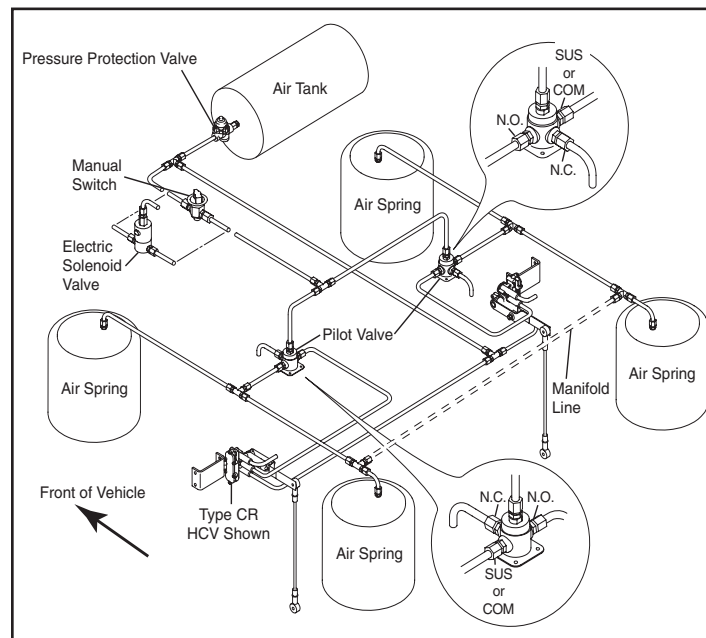

Figure 1. AC-77/78-M/S-1 Piping Diagram
2. Refer to Figure 1 for plumbing instructions and Figures 3-5 for mounting instructions of components.
**AC-78-M/S-1** - Air Control schematic shown is for a single Height Control Valve system with the manifold line installed as shown by a dashed line in Figure 1.
**Note:** Type CR HCV shown in Figure 1 is not included with AC-77/AC-78 Series Kits. The Type CR HCVs are included in the AC-6100/AC-6000 Series Kits. Contact your Haldex Sales Representative for assistance.